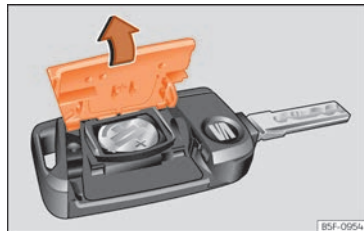

Fig. 87 Vehicle key: opening the battery compartment cover.
- Remove the cover from the back of the vehicle key »» Fig. 87 in the direction of the arrow »» ❶.
- Fit the cover as shown »» Fig. 87, pressing it onto the vehicle key casing in the opposite direction to that shown by the arrow until it clicks into place.